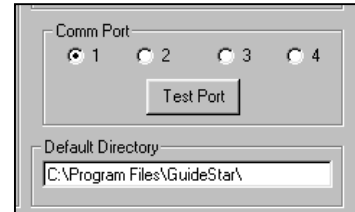

Fig 4-3 – Testing Communication
4. From the Setup Screen you can test communication by clicking on the Test Port button after selecting a Comm port (see Fig 4-3). If you receive a communication error message, select a different Comm port and click Test Port until communication is successful.